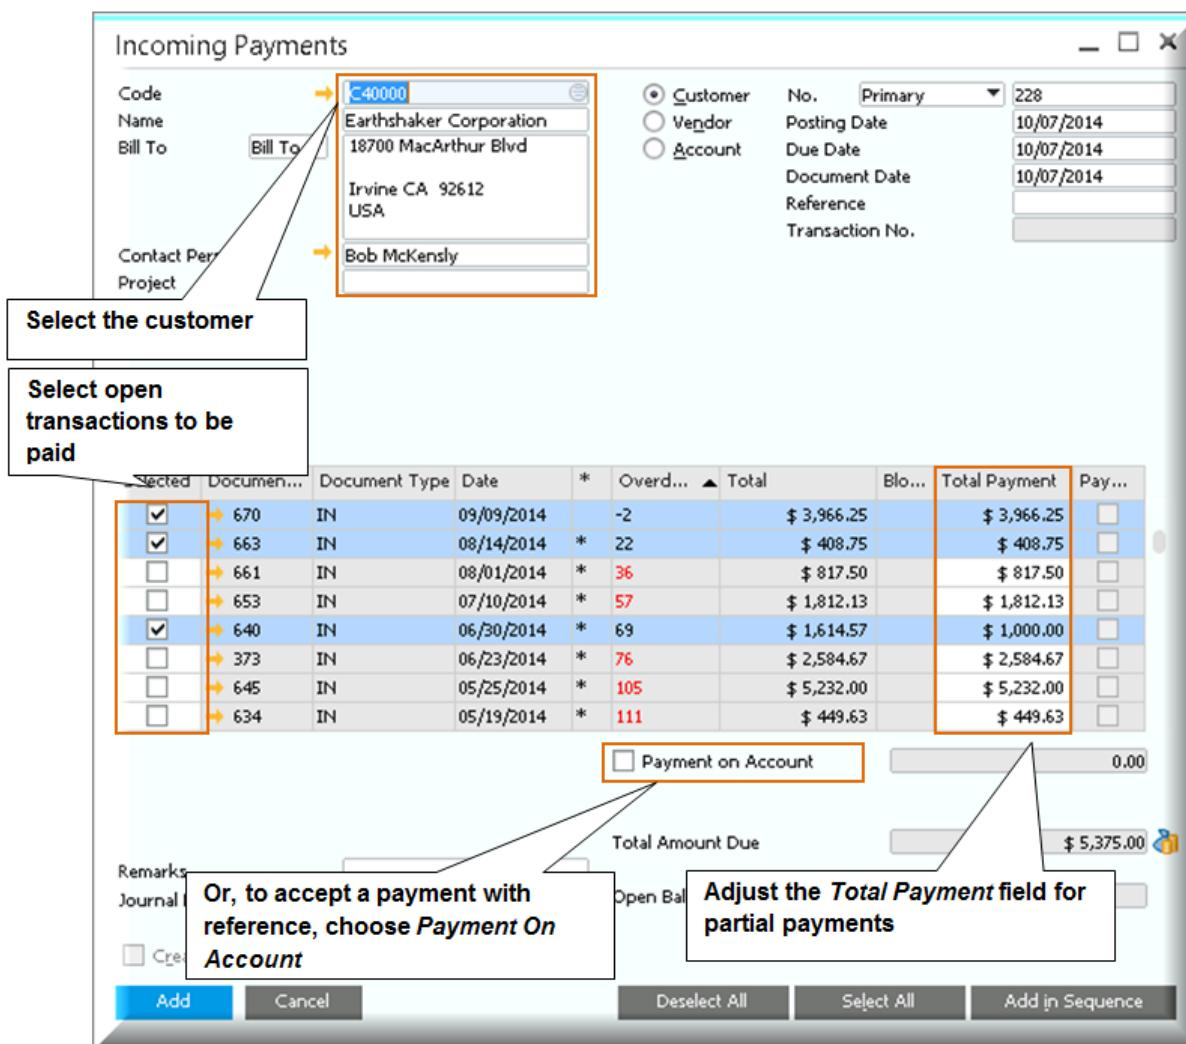

Figure 3-12: *Incoming Payments* window
- 1) Go to the *Banking → Incoming Payments → Incoming Payments* window shown in Figure 3-12